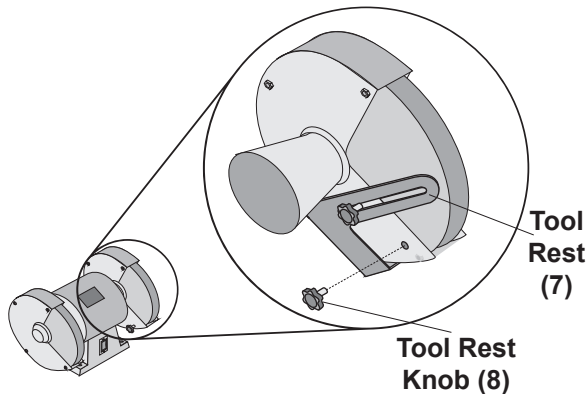

FIGURE 1 – Removing the Tool Rest Knob
2. Facing the front of the BENCH GRINDER UNIT, remove the front TOOL REST KNOB, and loosen the rear TOOL REST KNOB (8) as in Figure 1.